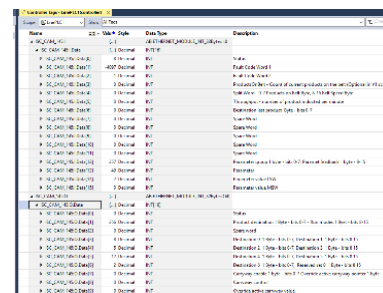

Figure 30: GED_ISC_CAM_v2 Controller Tags
14. After the import of the GED tags should have automatically been added to the program with descriptions, Figure 30.